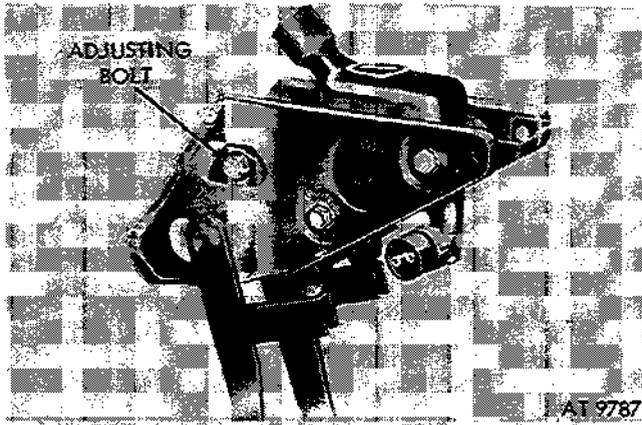

Figure 2-366. Position of eccentric adjusting bolt.
(1) Maintain fluid level in master cylinder at bottom of threads.
(2) Keep vent hole in master cylinder filler plug open.
(3) Make sure all brake line connections are securely tightened and leakproof.
(4) Replace scored brakedrums.
(5) Replace worn or oil saturated brakeshoe and lining assemblies (para 2-173).
(6) Adjust service brakes (*b* below) when pedal pad travel is within two inches of floor pan when brake pedal is in applied position.
b. Brake Pedal Free Travel Adjustment. Brake pedal free travel of $\frac{1}{4}$ inch must be maintained. To check brake pedal free travel, depress brake pedal by hand until resistance is encountered. The resistance indicates engagement of the push rod in the master cylinder. Brake pedal free travel is measured from this point to the position of the brake pedal at rest. To adjust, loosen locknut on eccentric adjusting bolt (fig. 2-366). Turn eccentric bolt until brake pedal free travel is $\frac{1}{4}$ inch. Torque eccentric bolt locknut to 10-15 lb-ft. and again check distance of free travel.